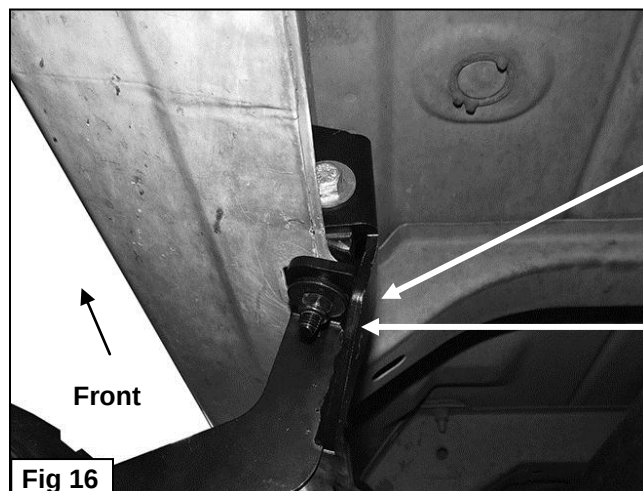

Fig 16
5. Select the driver/left Side Step. Carefully position the Driver Side Step onto the (3) Mounting Brackets. **IMPORTANT:** Do not slide the Side Step on the Brackets or damage to the finish may result. Attach the
Side Step to the Mounting Brackets with (6) 8mm x 25mm Combination Hex Bolts, **(Figure 16)**. Do not tighten hardware.
10. Line up the side tab on the Lower Bracket with the threaded hole in the side of the Upper Bracket. Attach the Lower Bracket to the Upper Bracket with (1) 8mm x 25mm Hex Bolt, (1) 8mm Lock Washer and (1) 8mm Flat Washer, **(Figure 16)**. Leave loose at this time.
11. Repeat **Steps 1—3** for the (2) remaining passenger side Bracket installations. **NOTE:** Cradles on Brackets installed on passenger side will face forward.